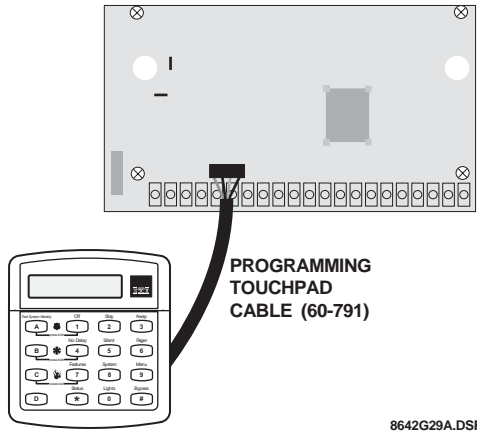

Figure 23. Connecting a Programming Touchpad
Be sure to have an alphanumeric (programming) touchpad on hand for on-site programming in installations that do not include one as part of the final system configuration. This programming touchpad can be connected to the Programming Touchpad Header (see Figure 23) using a Programming Touchpad Cable (part no. 60-791).
3. Connect the plug on the cable onto the panel programming touchpad header (see Figure 23).